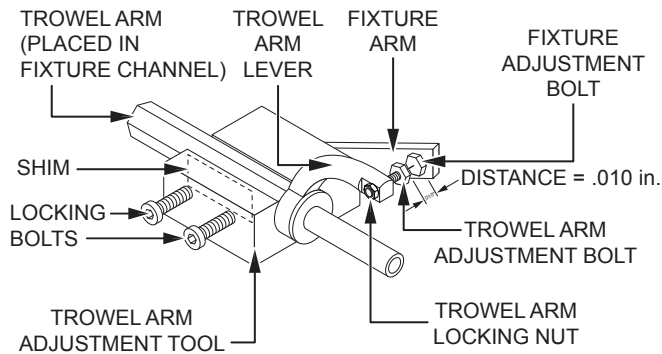

Figure 75. Trowel Arm Adjustment
1. Unscrew the locking bolts on the adjustment tool and place a trowel arm (with lever attached) into the fixture channel as shown in Figure 75.
3. A thin shim may be required to cover the blade holes on the trowel arm (Figure 75). Be sure to align the trowel arm adjustment bolt with the fixture adjustment bolt.
4. Tighten the locking bolts (Figure 75) to secure the trowel arm in place.
5. Adjust the bolt distance shown in Figure 75 to match one of the arms. The other arms will be adjusted to match this distance.
6. Loosen the locking nut on the trowel arm lever, then turn the trowel arm adjusting bolt until it barely touches (.010") the fixture adjustment bolt. See Figure 75.
7. Once the correct adjustment is made, tighten the locking nut on the trowel arm to lock it in place (Figure 75).